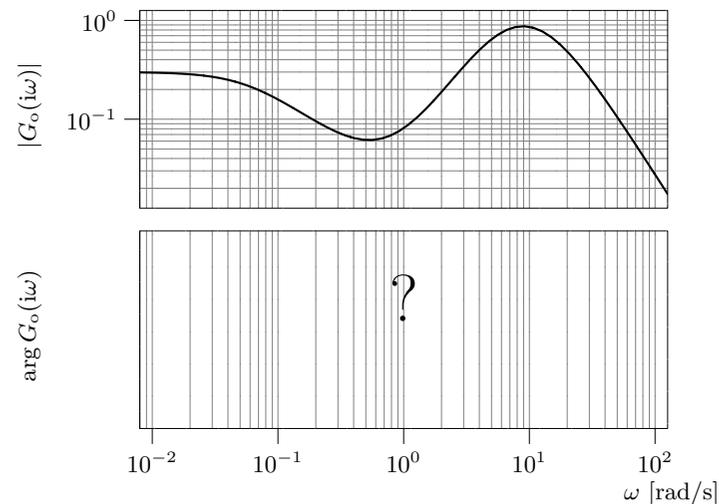

Figure 5.12b
b) Repeat for the transfer function whose amplitude curve is given in Figure 5.12b. Justify your answers carefully.